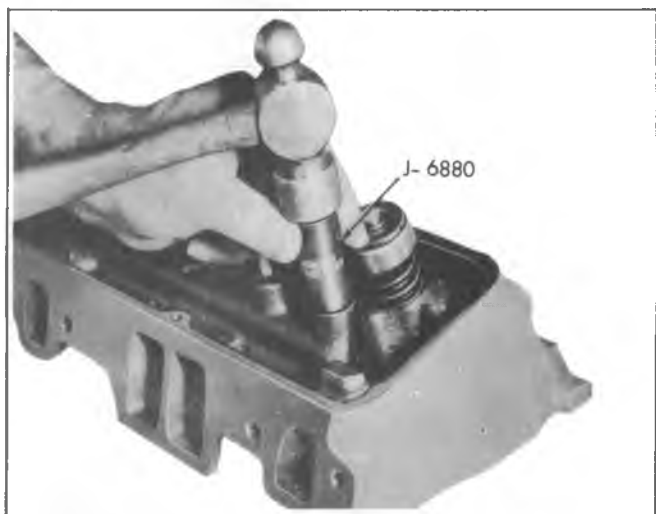

Fig. 6A4-28--Installing Rocker Arm Stud
3. Coat press-fit area of stud with hypoid axle lubricant. Install new stud, using Tool J-6880 as a guide. Gage should bottom on head (fig. 6A4-28).